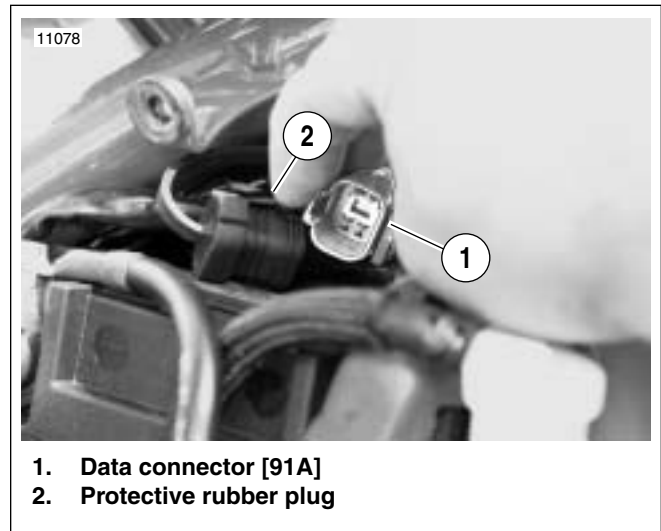

Figure 2-4. Serial Data Connector [91A]
See Figure 2-4. Using the Scanalyzer requires access to the data connector (1). See below for instructions on reaching the data connector.
3. See Figure 2-4. Remove rubber protective plug (2) from data connector (1). Plug Scanalyzer into connector.